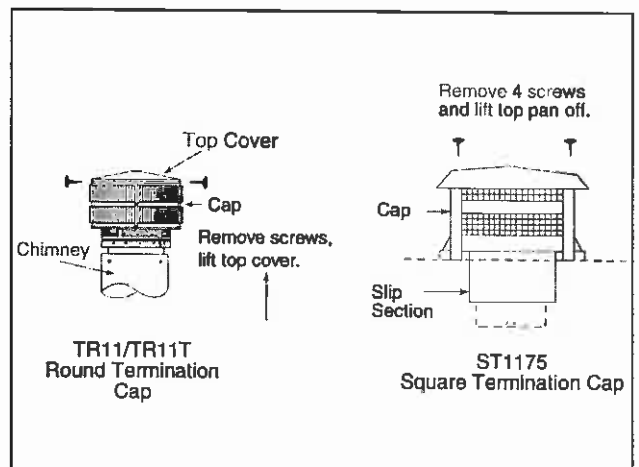

Figure 27
- Remove the termination cap or housing top. See Figure 27.